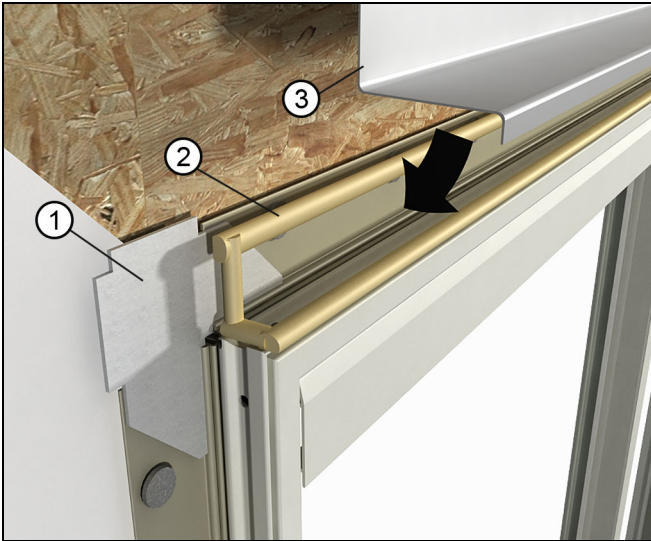

Figure 52
**2. Required on wood units/optional on clad units:** Install a rigid head flash at the head jamb. Be sure to apply a bead of sealant along the back sides of both vertical and horizontal surfaces of the cap that come in contact with the door, door casing, and/or sheathing. When an integral vinyl drip cap is installed, cut the vinyl drip off before using a rigid head flash. See Figure 52.